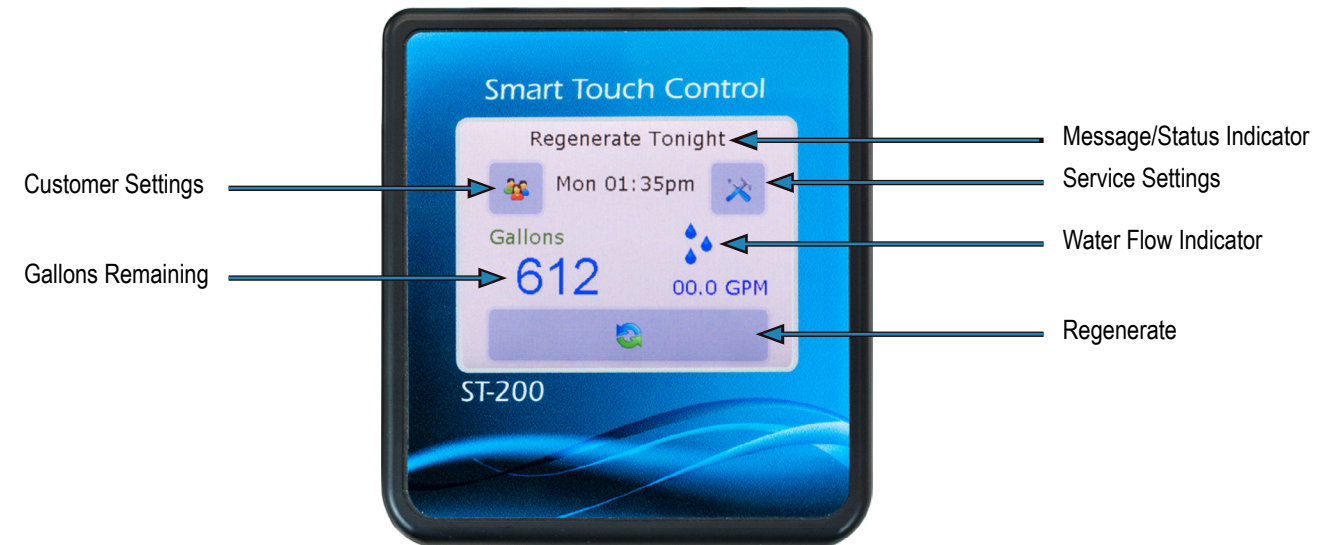

Figure 4: Smart Touch Controller
- Open a cold water tap and allow the appliance to flush for 20 minutes or until approximately 72 gallons (270 liters) have passed through the appliance. This procedure is required to meet NSF compliance. Verify the flow rate on the controller, which indicates water flow. See Figure 4.